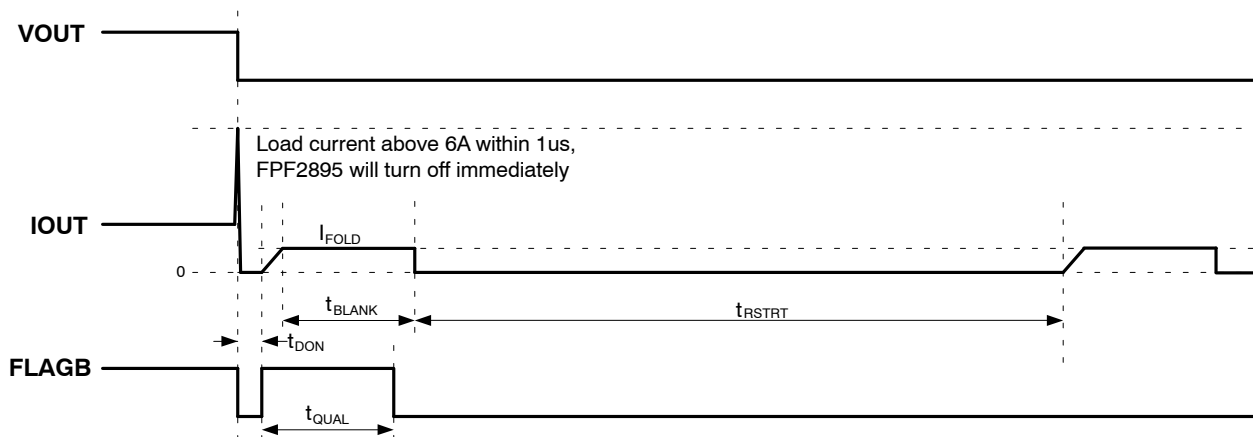

Figure 9. VOUT Hard Short to GND (OC_MODE=HIGH & FLAGB Is Pulled Up With an External VIO)
5. 6 A absolute limit current value. See Figure 9. for protection timing diagram.